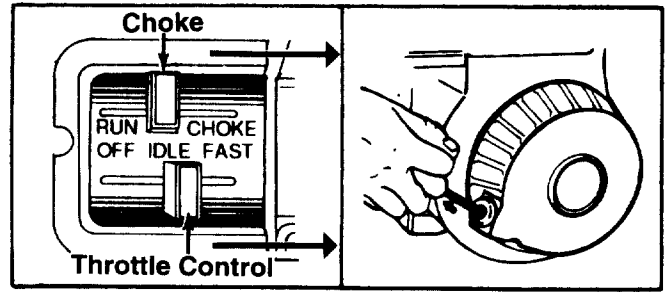

FIGURE 9.
- Place the throttle control lever in FAST position. See figure 9.
- Grasp starter handle (see figure 9) and pull rope out slowly until engine reaches start of compression cycle (rope will pull slightly harder at this point). Let the rope rewind slowly.
NOTE: If engine does not fire after three attempts, move choke lever halfway between CHOKE and RUN position and try again. See figure 9.